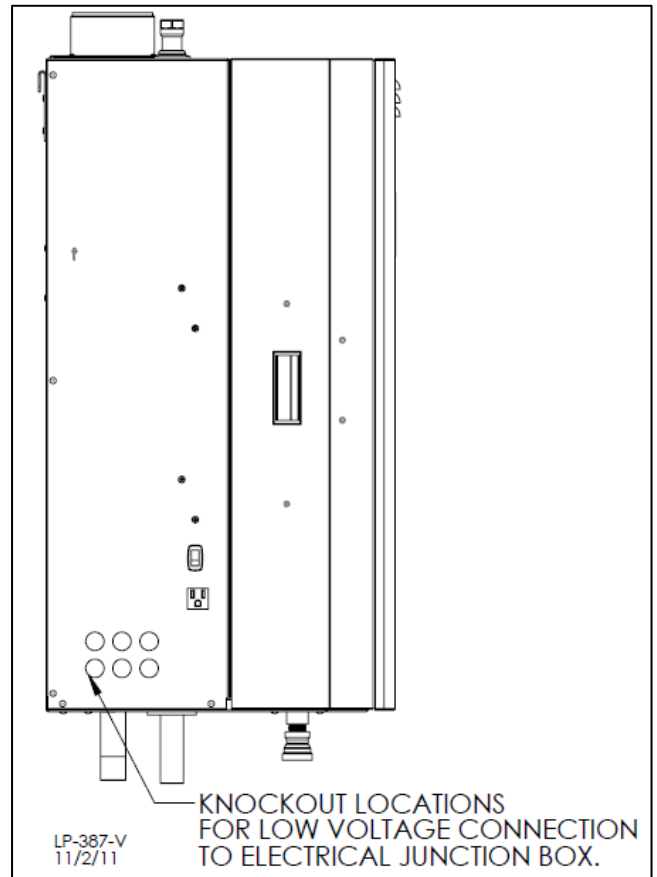

Figure 30 – Knockout Locations
All connections made to the boiler in the field are done inside the electrical junction box located on the left side of the boiler. Multiple knockout locations are available to route field wires into and out of the electrical junction box. See Figure 30.
1. All low voltage cables should enter the electrical junction box through the provided knock out holes as shown in Figure 30.
1. A Cascade Bus Termination Plug has been installed on the customer connection board of this boiler. The purpose of this plug is to stabilize communication between multiple boilers and reduce electrical “noise”. See Figures 30, 32, and 33 for Cascade Bus Termination Plug installation detail.